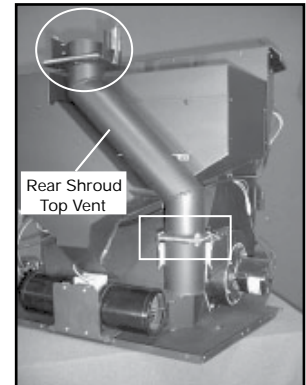

Figure 17.3
3. Use (2) 1/4 - 20 x 3/4 inch bolts with nuts to install rear shroud top vent to the exhaust transition. See boxed area in **Figure 17.3.** (Circled area, top vent adapter, will be installed later).
7. **For Top Vent Installation:** Install 3 inch or 4 inch (76 or 102mm) top vent adapter. See circled area in **Figure 17.3** on page 17. **NOTE:** This adapter may be attached to outside venting prior to latching it on to the top vent pipe.